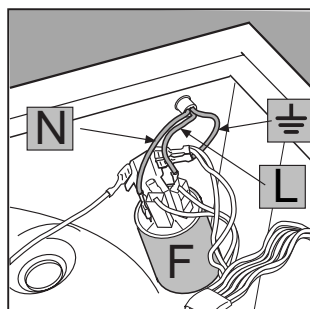

Fig. 14
3. Disconnect the wires from the radio interference suppressor **F** [fig. 14] noting as to their position (**Blue=N** wire; **Brown=L** wire) leaving the earth wire until last \perp . *N.B.:* letters **L**, **N** and the symbol \perp are indicated on the radio interference suppressor.